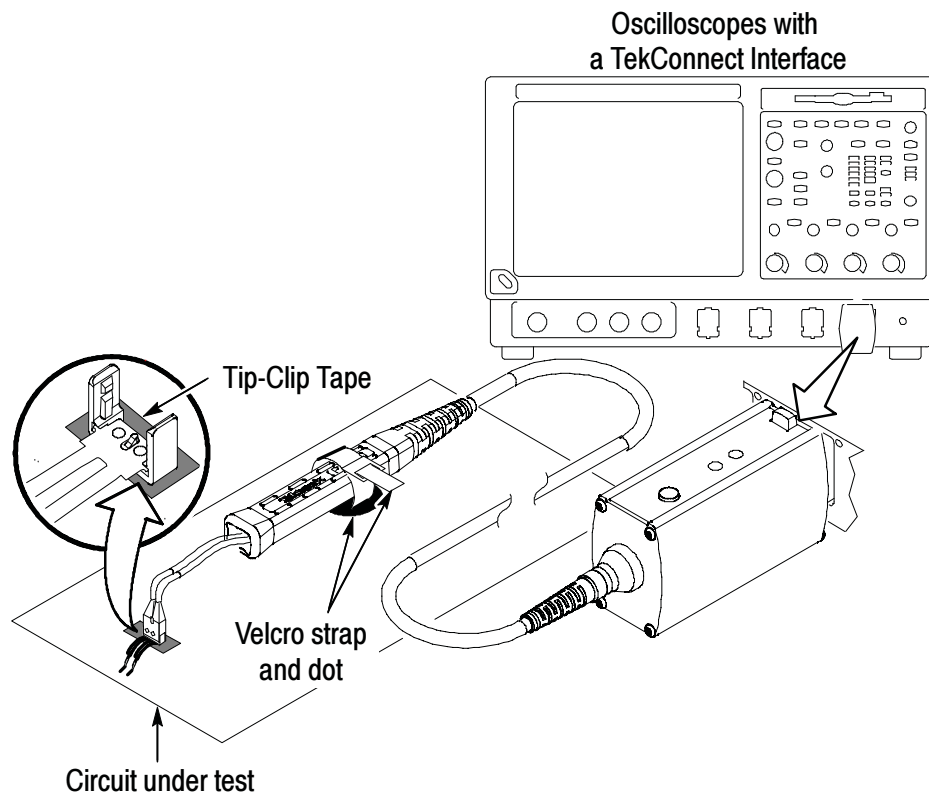

Figure 11: Connect to a circuit board
1. Attach the Tip-Clip Tape to the circuit board, then press the Tip-Clip assembly to the tape. See Figure 11. Wait a moment for the adhesive to set.
- Avoid strain on the attachment wires. To avoid strain on the attachment wires, the HBW Tip-Clip should be attached to the circuit board with the Tip-Clip tape as shown in Figure 11 on page 15. The use of Velcro fastening straps and dots to anchor the probe body is also recommended.